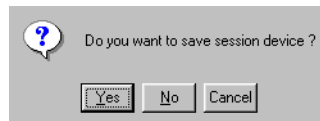

Figure 5-19 HyperTerminal Dialog Box
- Click **Yes** (Figure 5-19).